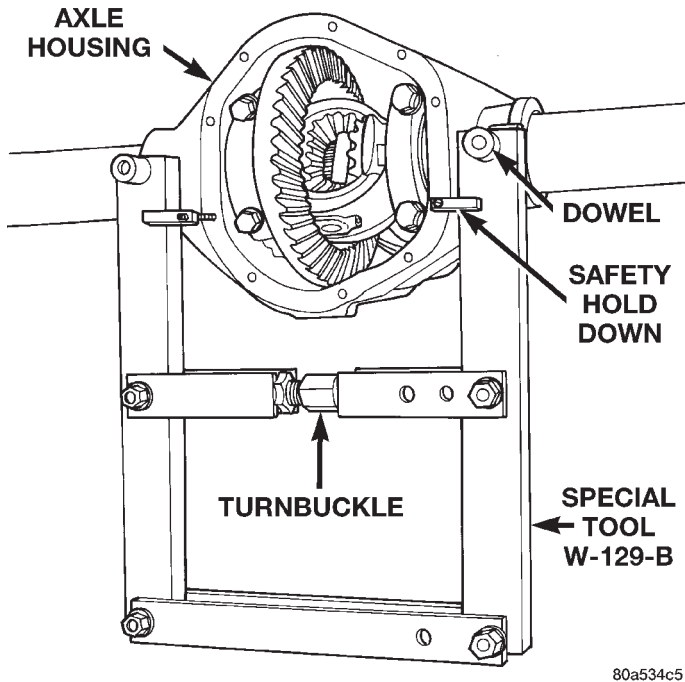

Fig. 28 Install Axle Housing Spreader
(1) Position Spreader W-129-B, utilizing some items from Adapter set 6987, with the tool dowel pins seated in the locating holes (Fig. 28). Install the hold-down clamps and tighten the tool turnbuckle finger-tight.